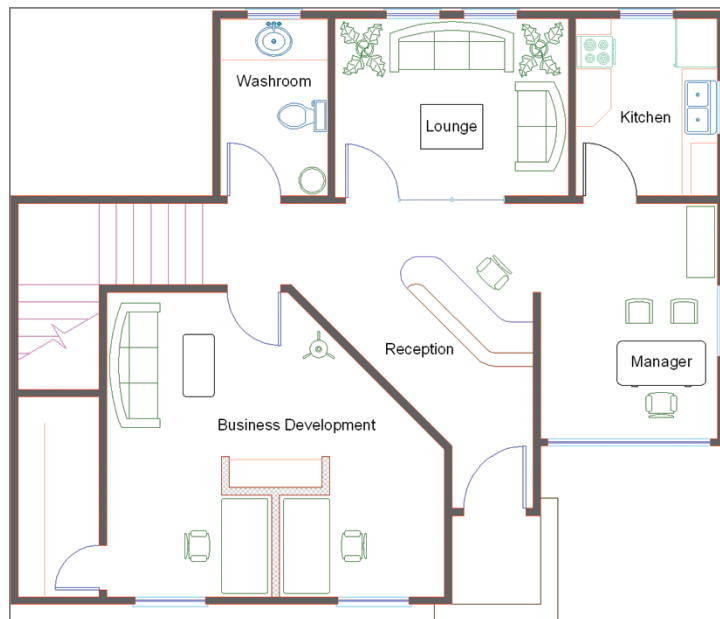

FIGURE 6.1 Small office plan
1. Go to the book's web page at www.sybex.com/go/autocad2014essentials, browse to Chapter 6, get the file Ch6-A.dwg (or Ch6-A-metric.dwg), and open it (see Figure 6.1). This is the architectural plan for a hypothetical small office.